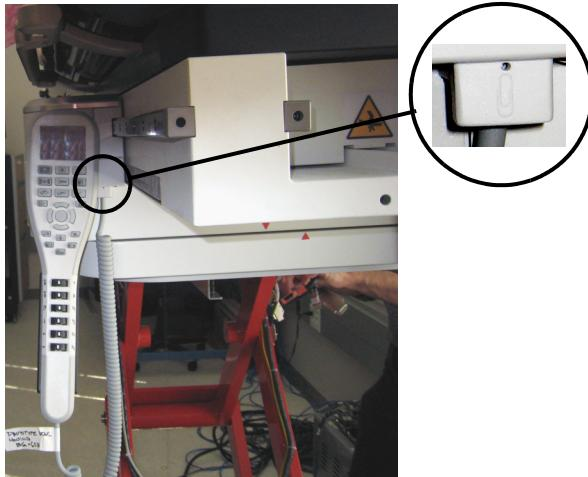

Figure 63 Paper Clip Hole at Cable Plugin to Couch
- Insert a paper clip into the hole near where the cable plugs into the couch (Figure 63).